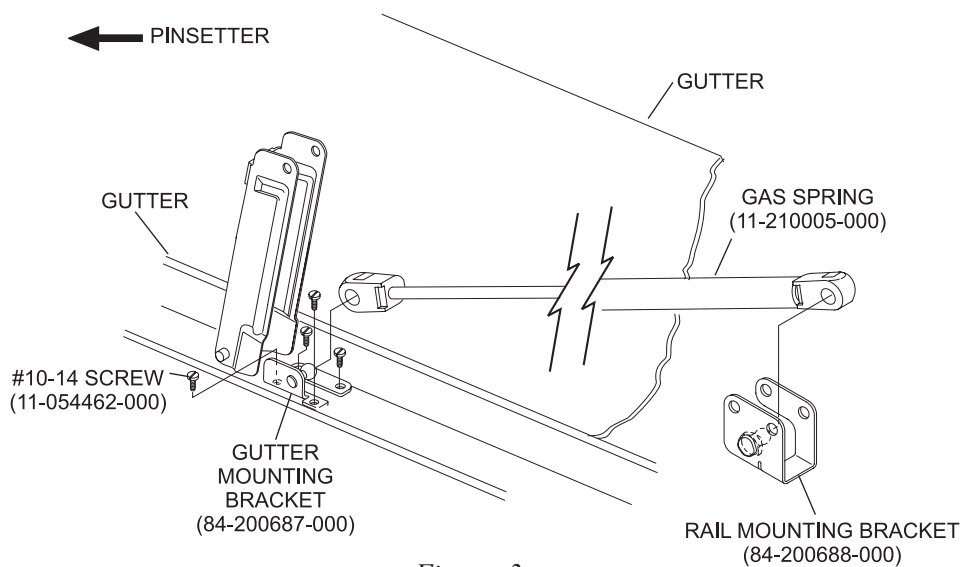

Figure 3
6. Assemble the gas spring, 11-210005-000, to the gutter mounting bracket, 84-200687-000, and the rail mounting bracket. The gas spring simply snaps onto the ball on each bracket. Refer to *Figure 3*. No tools are needed.